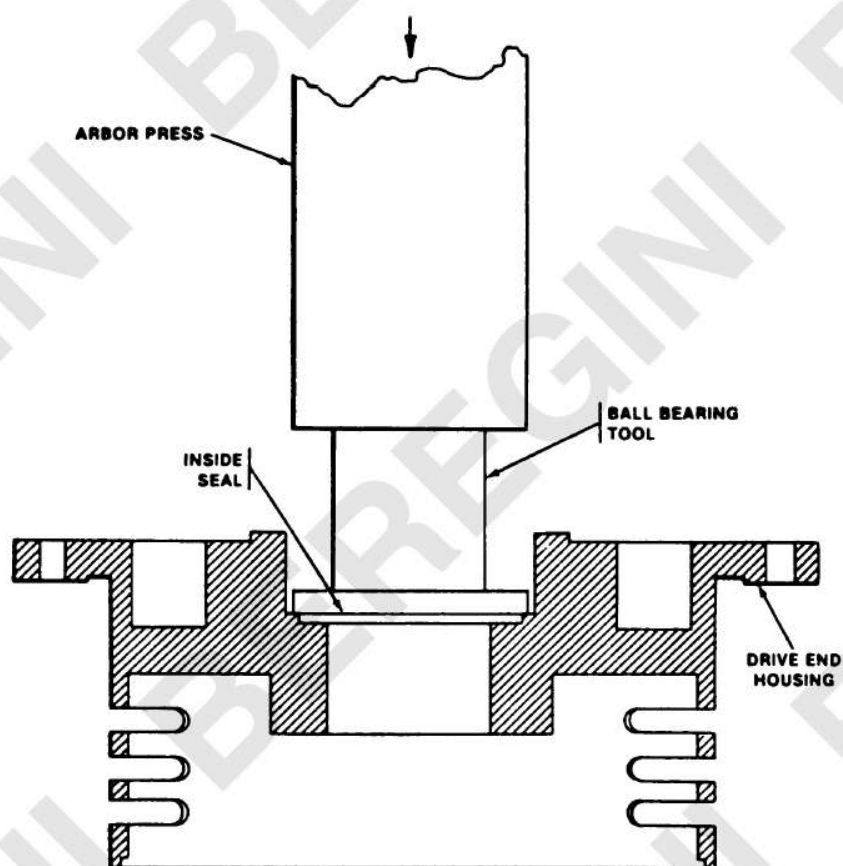

Figure 3-9. Assembly of Inside Seal in Drive End Housing Assembly.
(c) Place ball bearing tool (fig. F-1) on top of inside seal (22) according to figure 3-9. Press in seal flush with bottom of bearing bore.